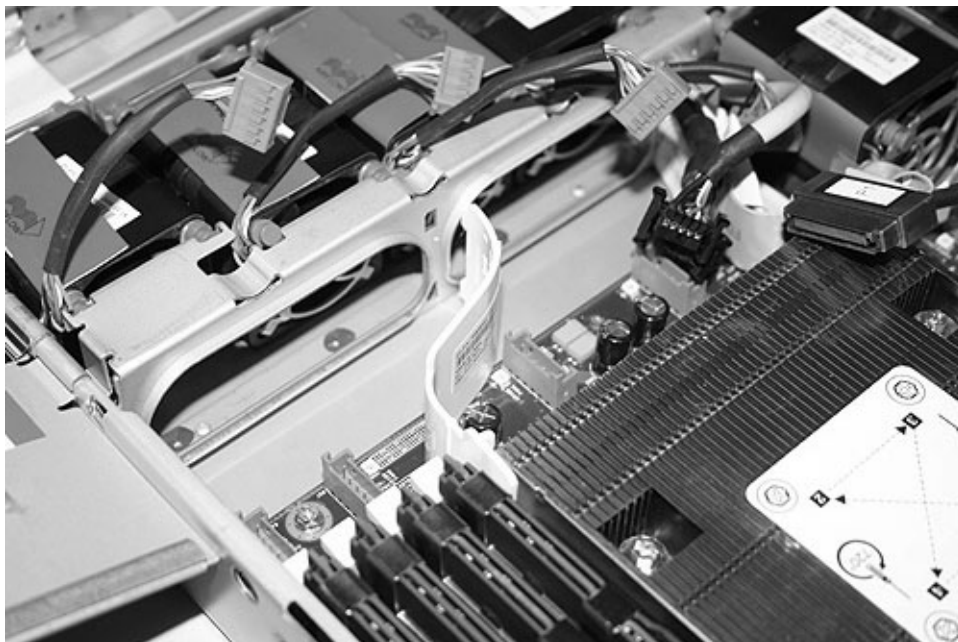

Figure 275. Right air baffle on the SAN Volume Controller 2145-8G4 system board
11. Remove the right air baffle, which is shown in Figure 275. First, pull the air baffle to the right and then push the connector towards the back of the unit to release it from the support rail. Next, pull the baffle forward and then upward to release the clip from the system board. Finally, lift the baffle free.